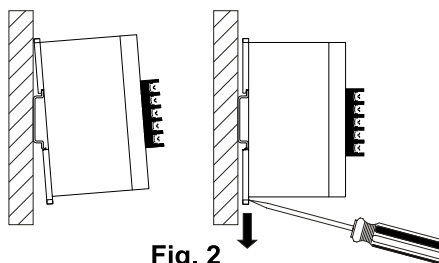

Fig. 2
3. Snap the power unit on TS-35 DIN rail to install (Fig. 2) Use a flat head screw driver to pull down underside mounting tab to release power unit from the DIN rail. (Fig. 2)